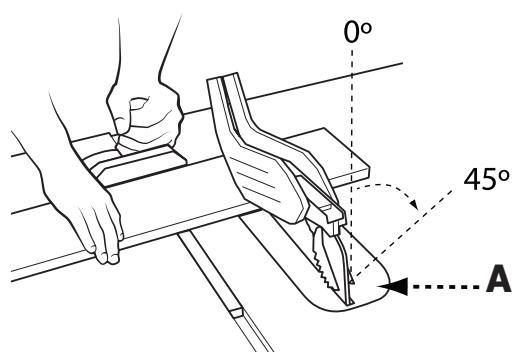

FIGURE 26
Miter crosscutting is the same as crosscutting except the miter angel (B) is set to an angle other than  $90^\circ$  (FIGURE 26).